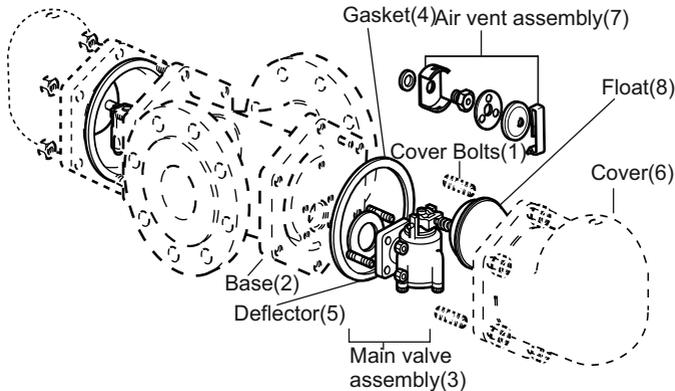

Figure 6: Maintaining the main valve assembly
7.4 Maintaining/ Replacing the main valve assembly : (Refer to Figure 6)
9. Available Spares: (Refer to Figure 6)